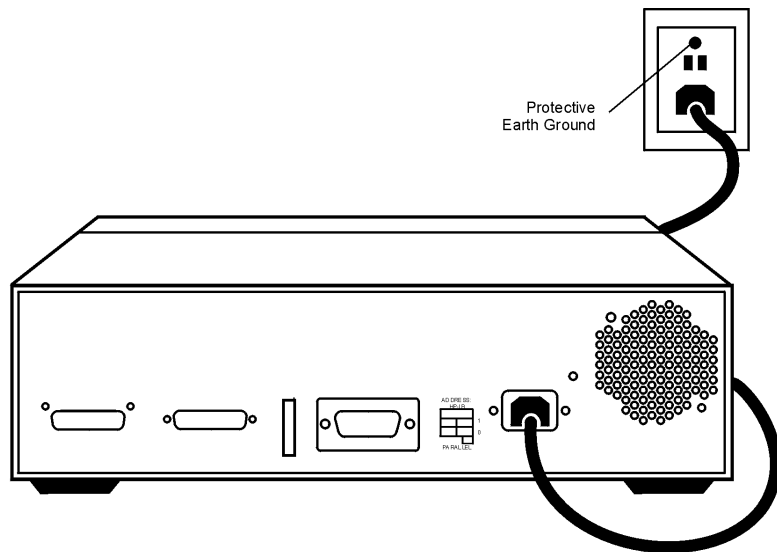

Figure 1 Protective Earth Ground
- 4 Verify that the power cable is not damaged, and that the power source outlet provides a protective earth ground contact. Note that Figure 1 on page 13 depicts only one type of power source outlet. Refer to Table 5 on page 30 to see the different types of power chord plugs that can be used with your test set